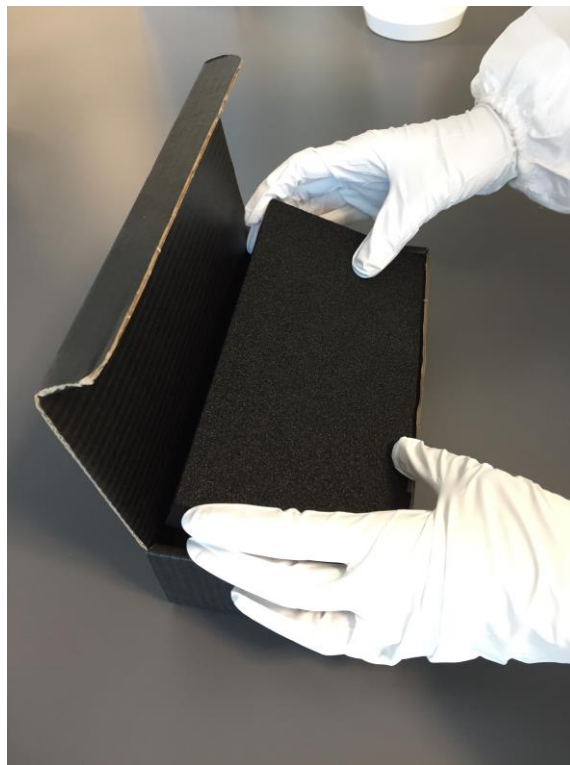

Figure 38: Removing the probe from the shipping box.
- Remove the cover foam by lifting it up at the side closest to the lid (Figure 38). The bottom foam has edges to prevent the cover foam touching the probes. By lifting the foam in this orientation, even the corners will never touch the shanks accidentally.